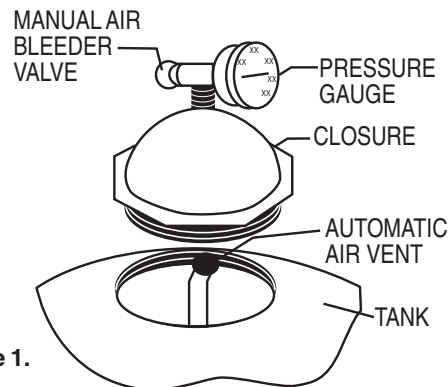

Figure 1.
- Pivot the diffuser out of the center of the tank by rotating the diffuser assembly counter clockwise. Fill the tank about half full of water. Pour pea gravel first and then the sand into the top of the filter at a slow rate so that the impact of the filter media does not damage the laterals. See Table 2 for the proper amounts of sand and gravel. Fill filter to the proper level to maintain freeboard, as shown in Table 2. Pivot the diffuser assembly back to its vertical position. Be certain the automatic air vent is protruding into the top of the closure as indicated below in Figure 1. Be sure that the automatic air vent is in the center of the filter closure and that the screen strainer is attached. Wash away all sand around the threaded opening at the top of the tank.